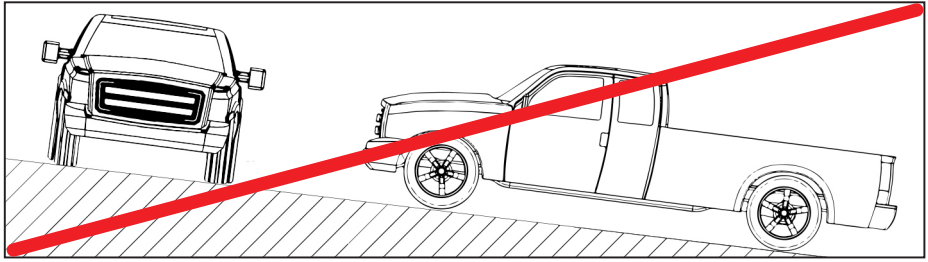

Figure 19 — Do not exceed 15° grade
- Ensure the system is not mounted (or parked) on grades exceeding 15° as this will affect lubrication and air/oil separation (Figure 19).